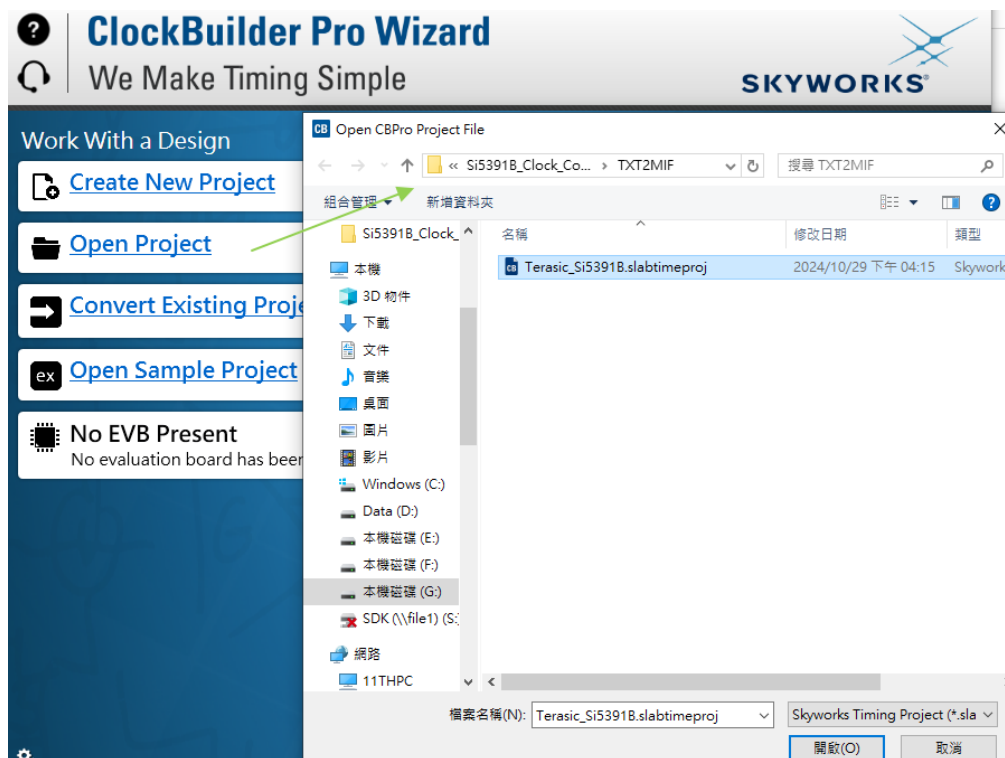

Figure 2-11 Open Project in CBPro
2. Launch ClociBuilder Pro, click “Open Project” to open Terasic Si5391B Golden project Terasic_Si5391B.slabtimeproj as shown in **Figure 2-11**. The Si5391B project is located in the system CD folder: